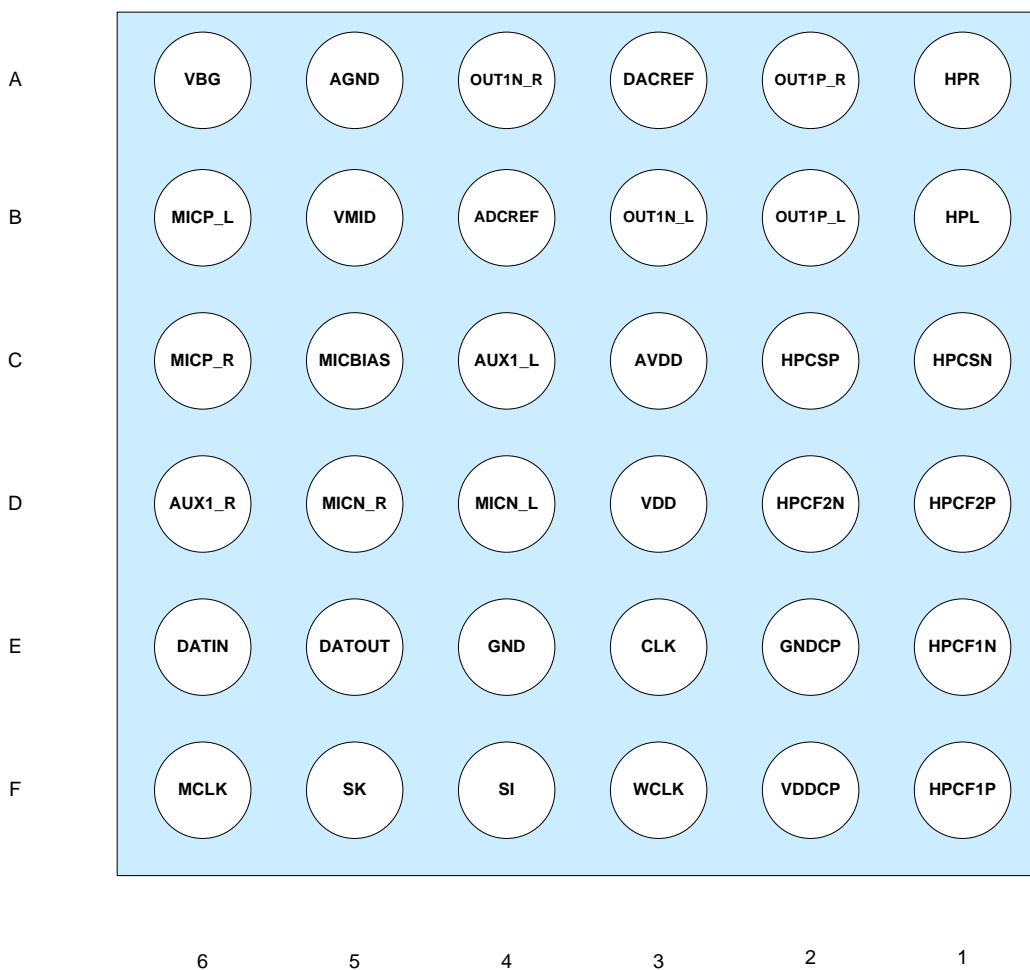

Figure 2: DA7211 pad arrangement (bottom view ball side up)
**Table 6: Power consumption figures 2:**